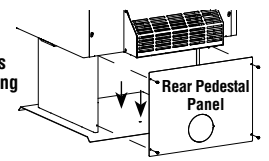

Figure 8 - Typical Installation
Manufactured Home Installations *(ref. Figure 8)*
1. **(Manufactured Home Installations Only)** Secure stove to floor per instructions in *Figure 8* on *Page 10*.
See *Figure 8* on *Page 10* for additional Manufactured Home requirements.